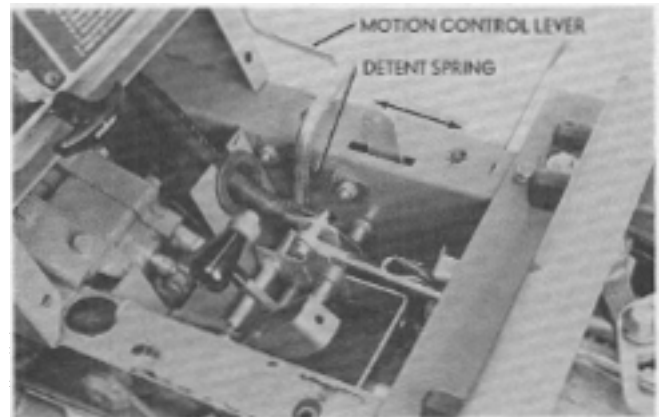

FIG. 14. Detent Spring Adjustment
- A) Remove control cover plate (Fig. 14).